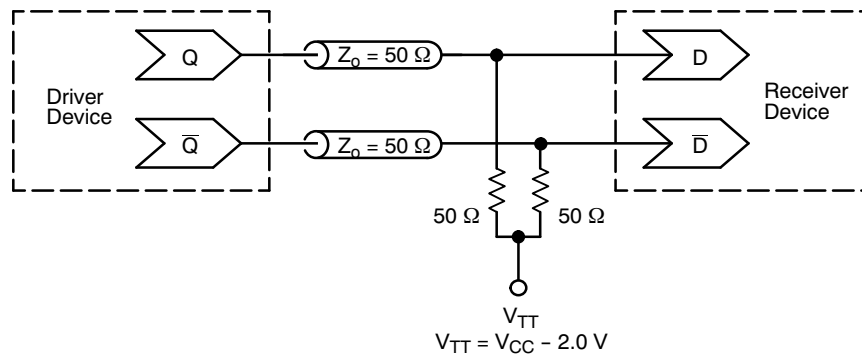

Figure 6. Typical Termination for Output Driver and Device Evaluation (See Application Note AND8020/D – Termination of ECL Logic Devices.)
3. LVPECL outputs loaded with external $50\ \Omega$ termination resistors to $V_{TT} = V_{DD} - 2.0\text{ V}$ for proper operation (see Figure 6).
The differential output buffers of the NB4N1158 utilize standard Positive Emitter Coupled Logic (PECL) architecture for OUT+ and OUT-. The outputs are designed to drive differential transmission lines with nominally 50 Ω or 75 Ω characteristic impedance. External DC load/termination with a 50 Ω resistor to $V_{TT} = V_{DD} - 2.0$ V is required. See Figure 6 for output termination scheme.